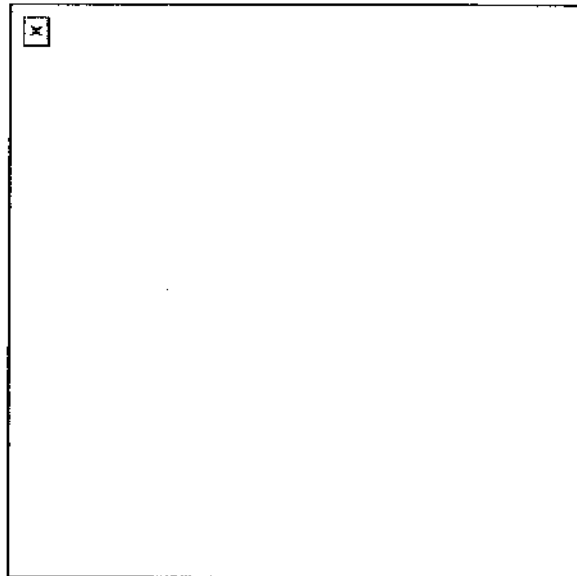

Figure 4. Disassembly of the magazine.
- i. Disassemble the magazine (Figure 4).
- (1) Attach a bore brush to a cleaning rod. Moisten the bore brush with CLP and insert it into the chamber end of the barrel. Make sure the brush completely clears the muzzle before you pull it back through the bore. Repeat this procedure several times to loosen carbon deposits.
- (2) To clean and dry the barrel, push a clean swab through the bore. Repeat as necessary with fresh swabs until a swab comes out clean.
- (3) Clean locking block with a soft brush.
- (4) Clean the recoil spring and spring guide with CLP and a soft brush or cloth.
- d. Magazine (Figure 4).
- (1) Wipe the magazine tube and the follower with CLP, a cloth, and a soft brush.
- (1) Check for bends, chips, and cracks.
- (2) Check to ensure the slide stop and magazine stop move freely.
- (3) Check the guide rails for excessive wear, burr, cracks, or chips.
- e. Magazine assembly (Figure 4).
- (1) Check for damage to the spring and follower.
- (2) Inspect magazine lips to ensure they are not bent excessively and to ensure they have no cracks and burrs.
- (3) Check to ensure the magazine tube is not bent.